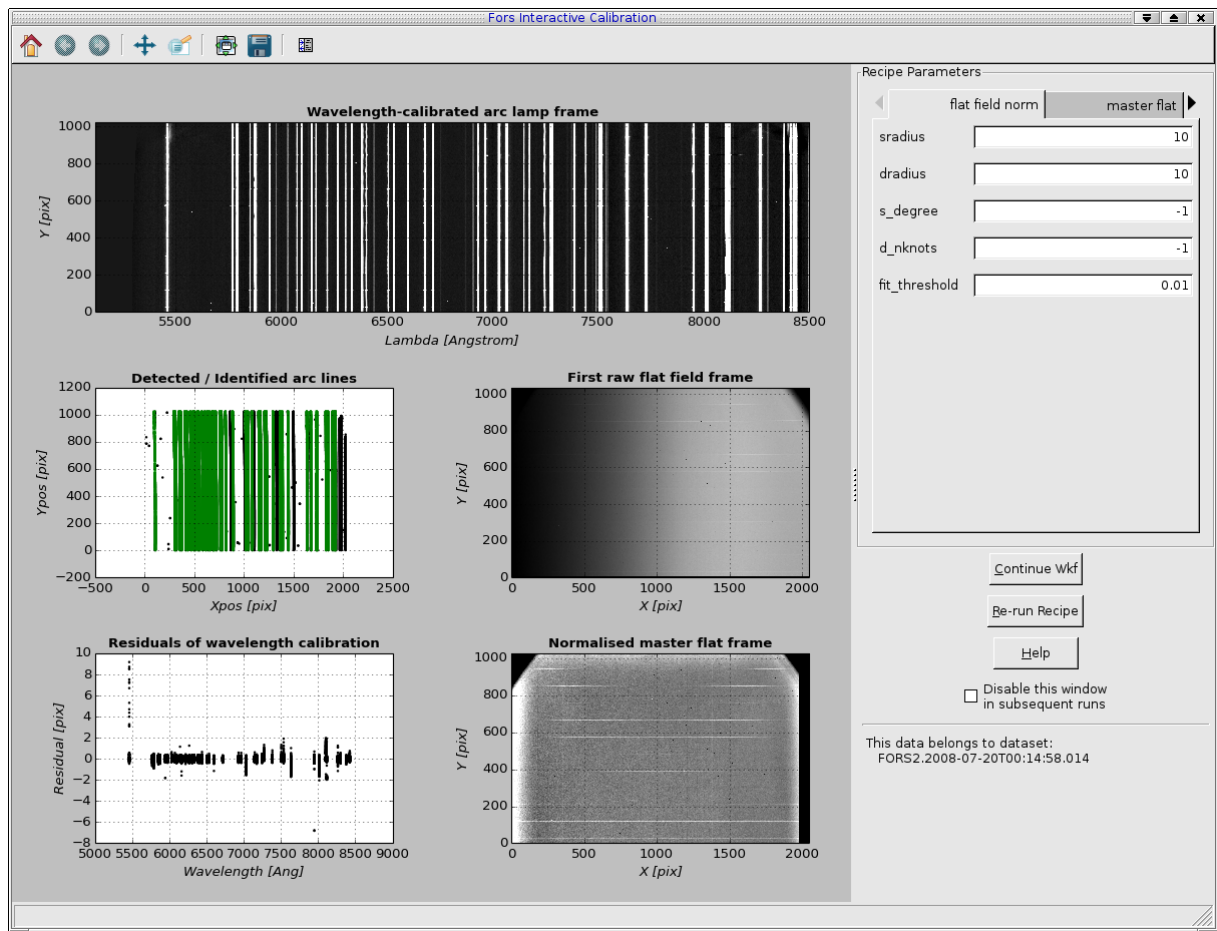

Figure 4.4: The interactive window of the `fors_calib` actor for the first demo DataSet. First the calibration data of the flux standard star are processed.
9. For each execution of the `ForsCalib` actor, an interactive window will appear which shows some plots to evaluate the quality of the slit tracing, the wavelength calibration and the master flat creation. Figure 4.4 shows the look of that window. The first and fifth data set will create an error message during that step. See p. 30 how to proceed.